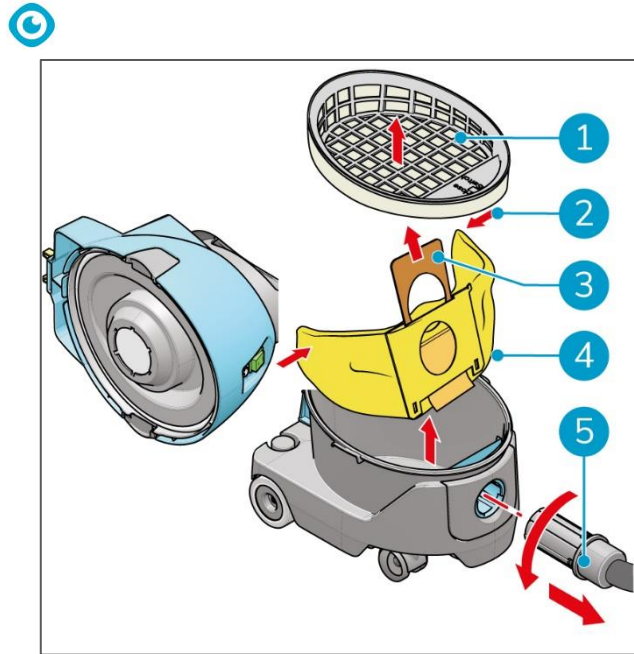

Figure 11
6. Turn the hose (Figure 11, pos 5) counterclockwise and remove it from the hose connector.
7. Remove the filter bag (Figure 11, pos 1).
8. Pull the cardboard tag (Figure 11, pos 3) to seal the dust bag.
9. Fold the ends of the dust bag (Figure 11, pos 2) towards each other.
10. Remove the old dust bag (Figure 11, pos 4).